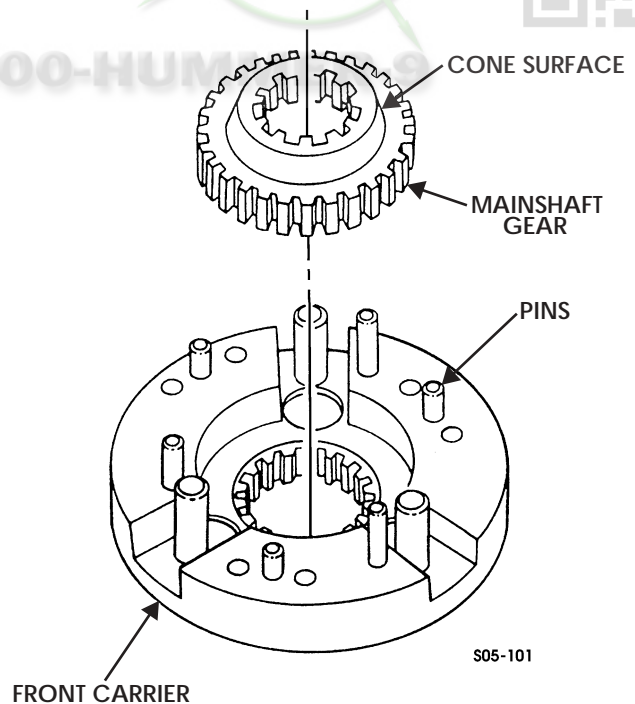

Figure 5-154: Mainshaft Gear
10. Place mainshaft gear in front carrier, with cone surface up (Figure 5-154).